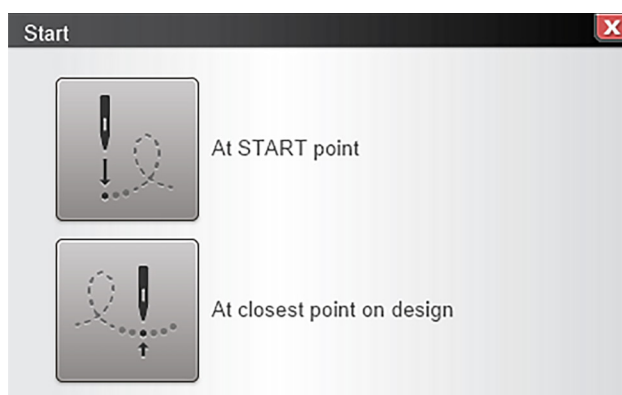

Fig. 57
2. Next, select At Start Point when prompted (Fig. 57). The Sewhead will move to the start point of Row 1.